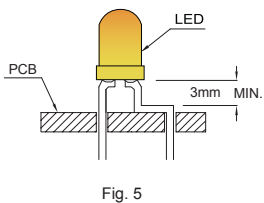

Fig. 5
1. Maintain a minimum of 3mm clearance between the base of the LED lens and the first lead bend. (Fig. 5 and 6)